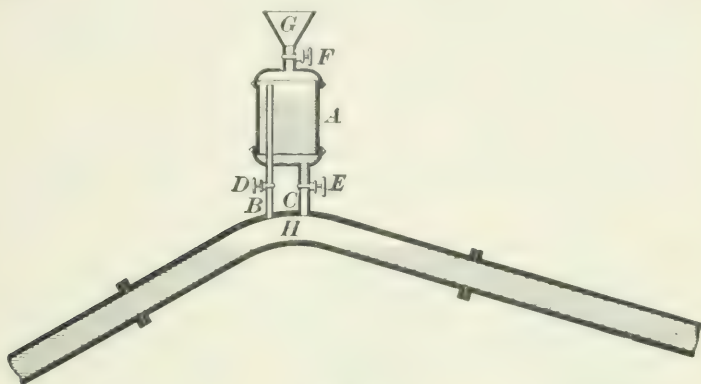

FIG. 24.
67. A device that will remove the air is shown in Fig. 24. Here A is an air-tight vessel connected with the siphon by two small pipes B and C . The pipe B extends nearly to the top of A , while the pipe C barely enters the bottom. Each pipe has a valve D and E . A valve F and funnel G are placed on top of the vessel. When the siphon ceases to flow, which is an indication that air has collected (it is here